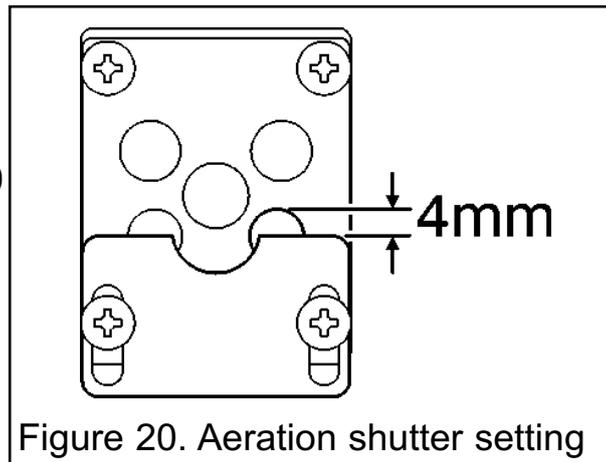

Figure 20. Aeration shutter setting
1. The aeration shutter is factory set and should not require adjustment. If the shutter is not as shown in figure 20 and requires adjustment, loosen the two aeration shutter screws, slide the aeration shutter to the position shown in figure 20 and tighten the fixing screws.